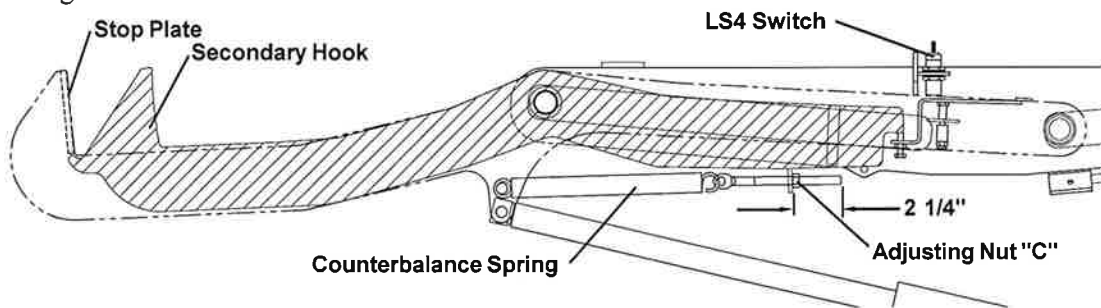

Fig 1. Counterbalance Spring Adjustment
- 2.) Check the counterbalance spring tension by depressing and then releasing the secondary hook. The secondary hook must contact the stop plate with a positive upward force. Tighten adjusting nut "C" to increase tension - initial position should be 2 1/4" from the end of the threaded rod. (See Fig. 1)